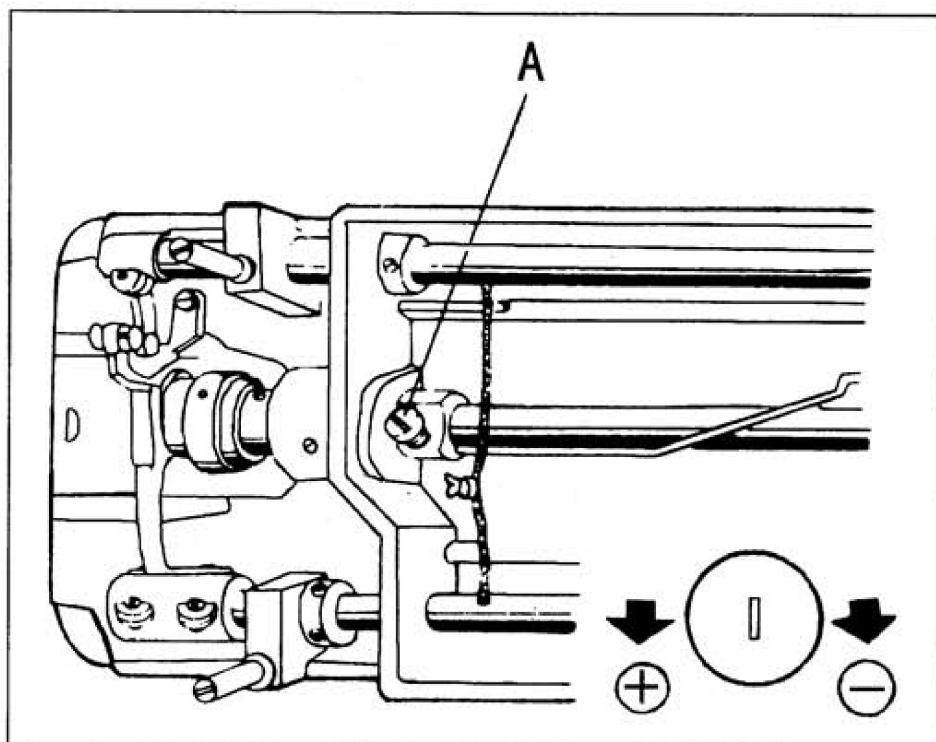

Fig. 30
22. LUBRICATION ADJUSTMENT (Fig.30)